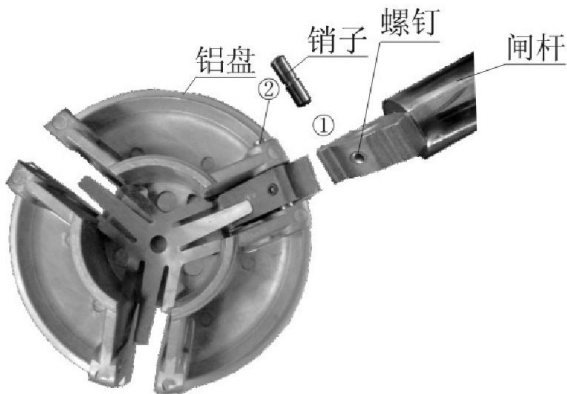

Figure 1
2.brake lever assembly (see Figure 1)